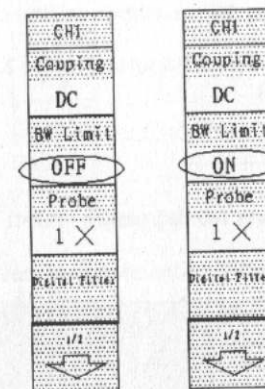

Figure2-2
b. Setup the channel bandwidth limit, as Fig.2-2 shows.